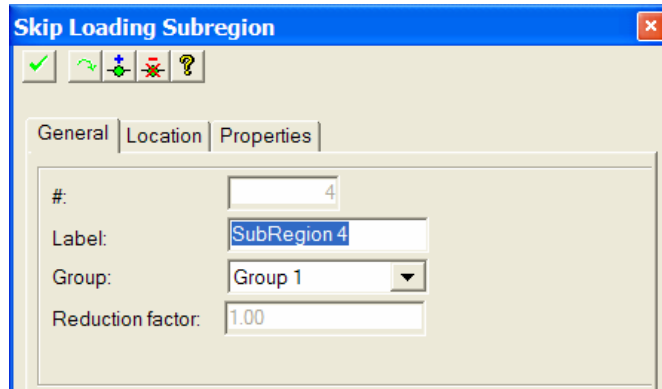

FIGURE 6 SKIP LOADING SUBREGION PROPERTIES BOX
- Open the properties box (**Fig. 6**) of each skip subregion by double clicking on its hot spot (circle displayed in its middle). Alternatively, select a skip region and then invoke its properties box by